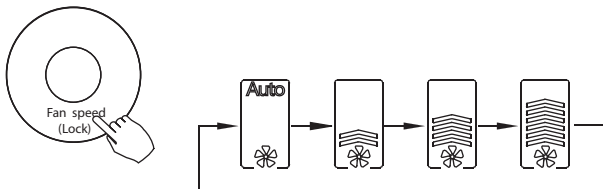

Fig. 11 – Fan Speed
- Press **FAN SPEED** to set the fan speed (see Fig. 11).